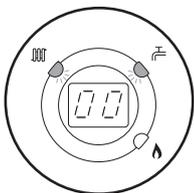

Fig. 96
6. The display will show '00', indicating maximum rate, then revert to 'P' alternating with the current boiler temperature (Figs. 96, 97 & 98).